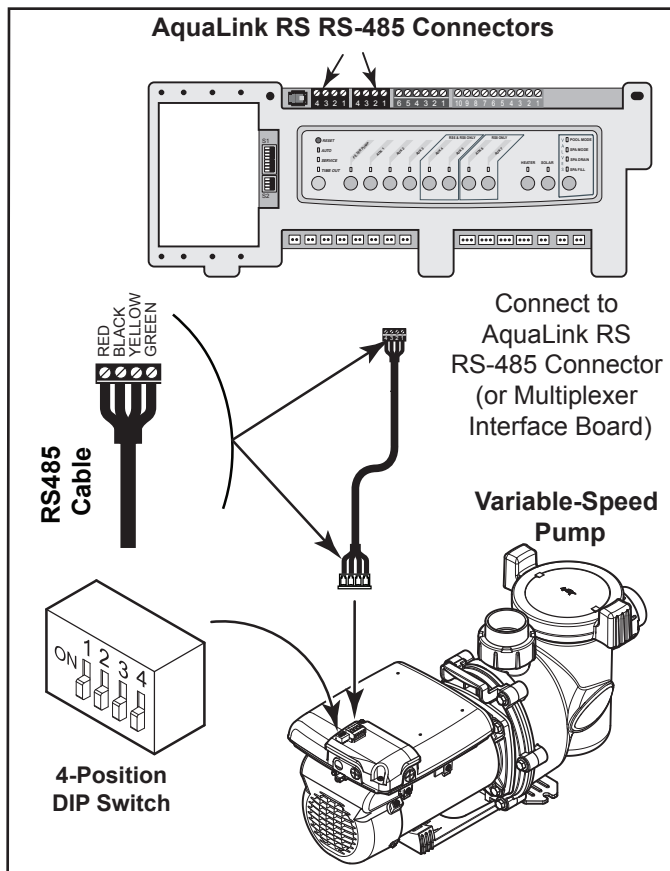

Figure 10. Wiring AquaLink RS Controller or AquaLink PDA to VS-FHP2.0
2. For the VS-FHP2.0, slide dip switches 1 and 2 down to the OFF position. See Figure 10.
4. Connect the other end of the cable to an RS-485 connector on the AquaLink® RS (or multiplexer interface board), matching wire colors with connector positions as follows: 1-red, 2-black, 3-yellow, and 4-green. See Figure 10 and read Section 3.3.